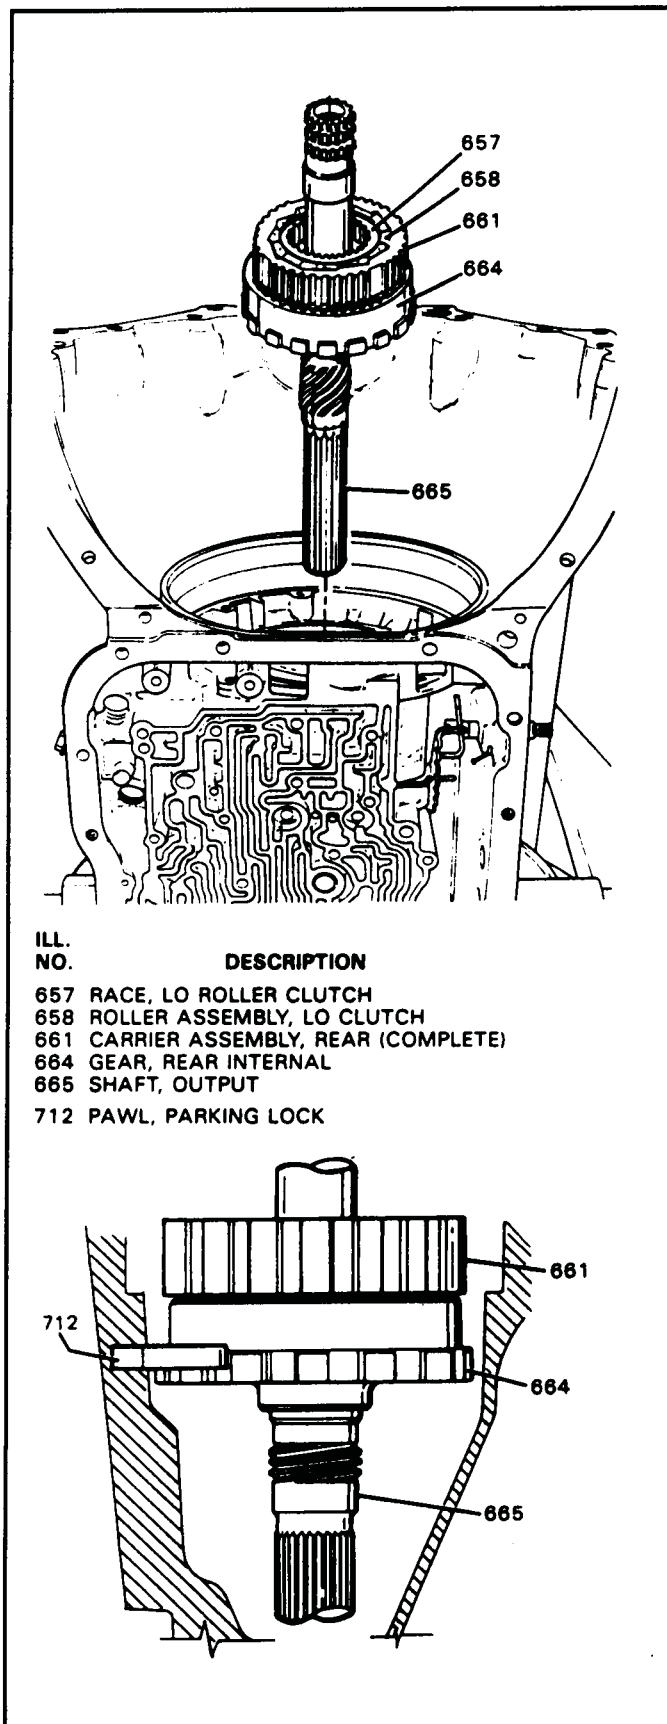

Figure 71
21. Install the rear carrier assembly into the ring gear by rotating into position (See Figure 71).
22. Install the completed output shaft and the rear carrier assembly into the case (See Figure 71).
23. Align the parking lugs on the rear ring gear, with the parking pawl in the case, by rotating the adjusting screw on the output shaft holding fixture (See Figure 71).